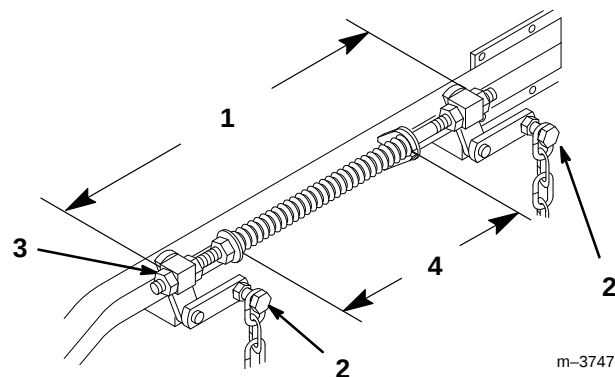

Figure 47
6. Loosen four (4) top chain bolts in slots. Check the length of the rod/swivel assemblies. Distance from outside of rear swivel to outside of front swivel should be 20-1/4" (514 mm) (Fig. 47). Make sure that all four swivels move freely in holes.
8. Lift up on four (4) top chain attachment bolts, in the slots, to take slack out of chains and tighten flange lock nuts. (Deck is still supported by two rear and one front blocks under mower)
2. Springs are compressed so the distance between the two large washers should be 10-1/4" (260 mm) (Fig. 47).
3. Adjust by turning nut in front of each spring (Fig. 47). (clockwise will shorten spring, counter-clockwise will lengthen spring)